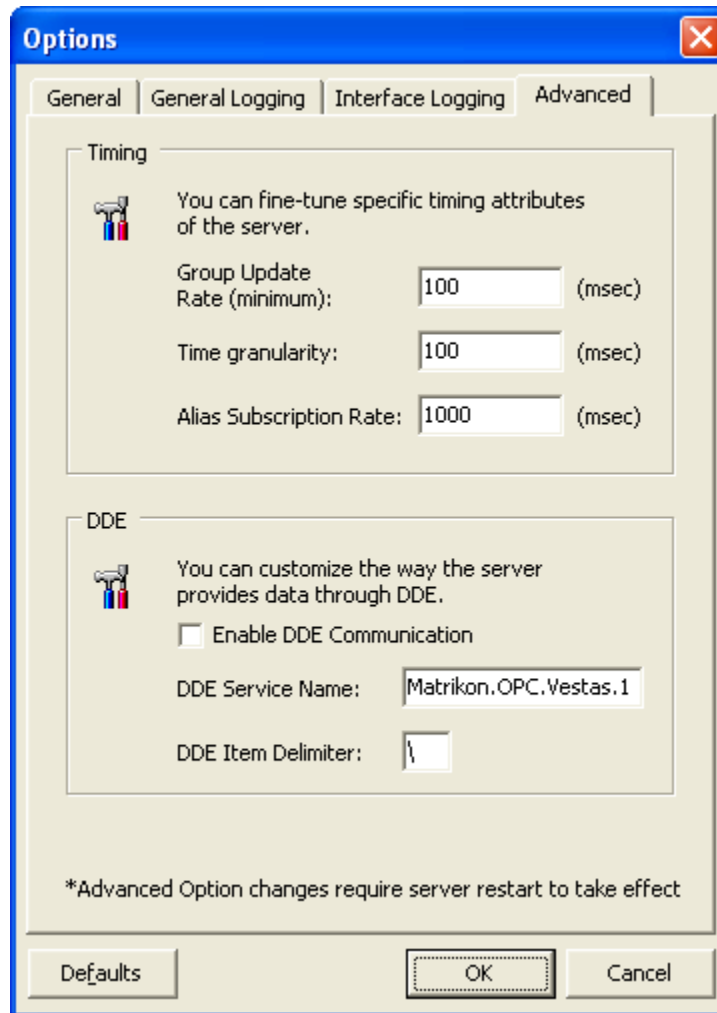

Figure 8 - Advanced Options Tab
3. From the **Options** window, select the **Advanced** tab (Figure 8).